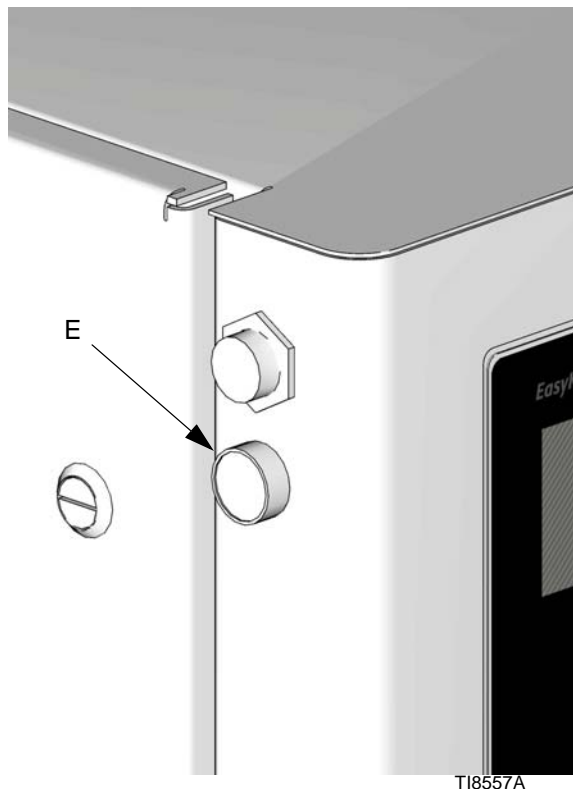

FIG. 44
The maintenance call kit is designed for the user to indicate an issue has occurred and needs to be addressed, but the unit keeps operating if no serious faults have occurred. With the optional light tower kit the maintenance call button (E) causes the yellow light to flash making the problem more obvious. See FIG. 44. This kit includes the push button actuator and internal harness to connect the button. For additional light tower information see “Light Tower Kit (253547)” on page 80.